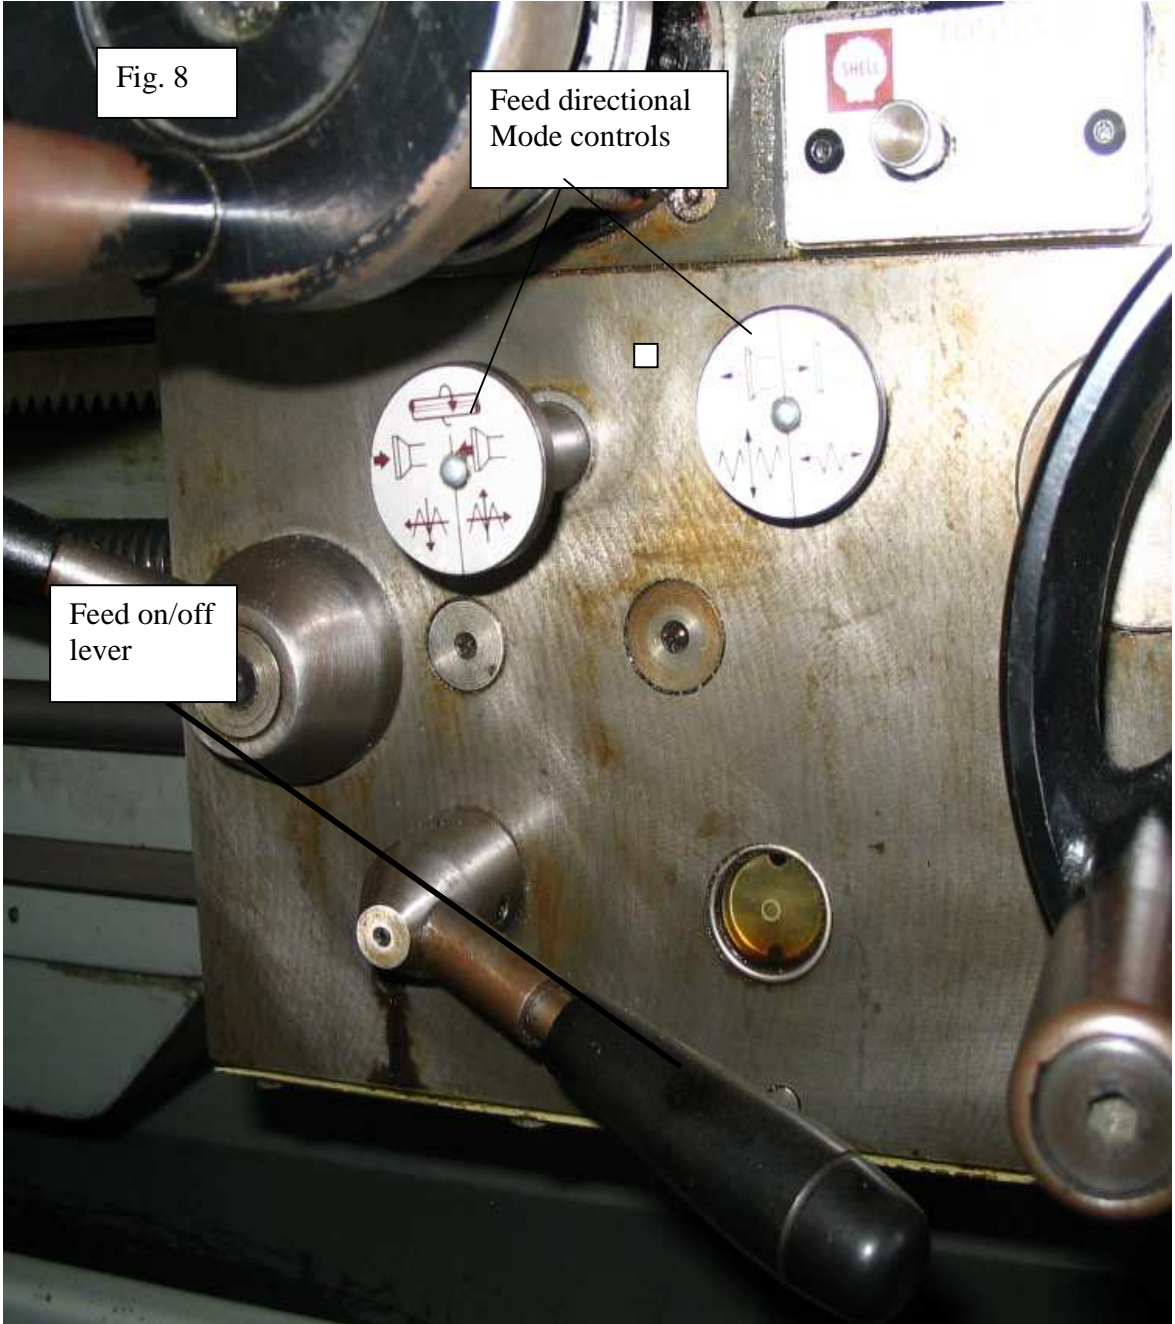

Fig. 8
- 5) Start feed by pulling feed on/off lever up. ( Fig.8 )